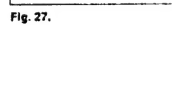

Fig. 27.
- 4 Using Δ or ∇ , select the programme position you want to block and press OK. The CH and LABEL of the selected programme number, change colour indicating that this programme is now blocked. (See Fig. 27.)